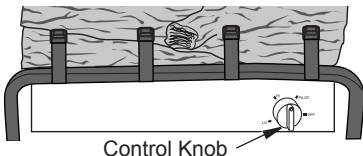

Figure 20 - Control Knob and Ignitor Button Location
- Press in control knob and turn counterclockwise ↶ to the PILOT position (see Figure 20). The ignitor will spark once. Keep control knob pressed in for 5 seconds. If control knob does not pop up when released, contact a qualified service person or gas supplier for repairs.